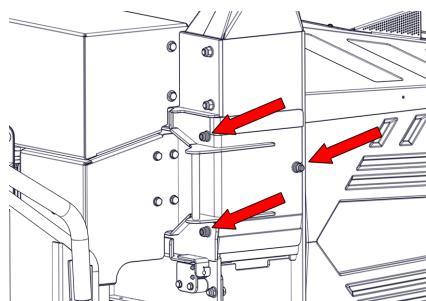

Figure 23 - Rotor Housing Access Hatch
3. Remove the three nuts and washers retaining the rotor housing blade access hatch and remove the hatch (Figure 23).